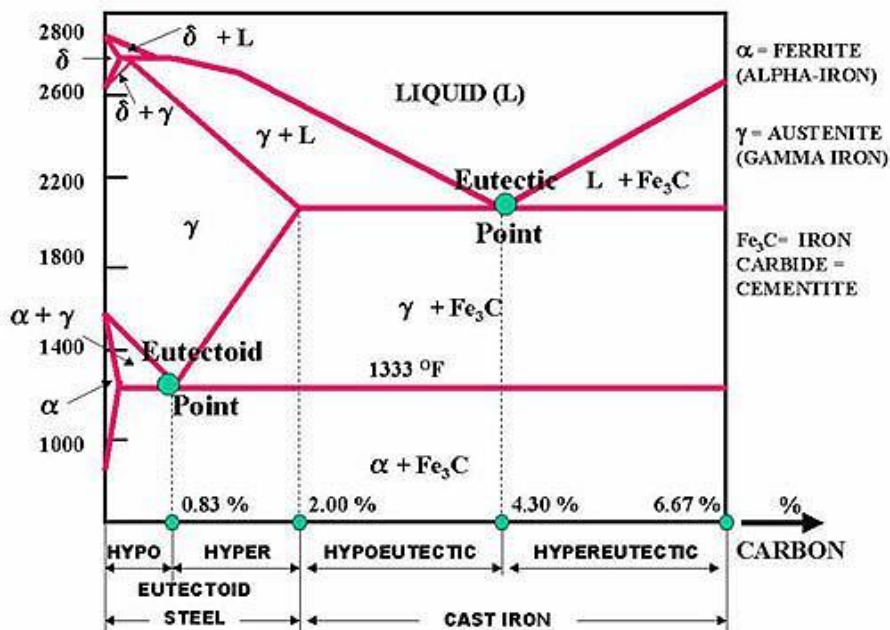

Fig.5.1. Fe – Fe3C diagram
Cast irons are an iron-carbon alloys which contains more than 2 % carbon (carbon may be presented as carbide (connected) and as graphite (free)) and impurities S, P, Mn, Si. The microstructure of steels and cast irons are described by Fe – Fe3C diagram (Fig.5.1).
**Eutectoid steel.** In the abbreviated iron–iron carbide diagram of Fig. 5.1 the eutectoid point is the lowest temperature and composition at which the austenite phase can exist. It is that point corresponding to a composition of 99.2 wt% Fe 0.8 wt% C. This is the eutectoid point of the iron–iron carbide system.